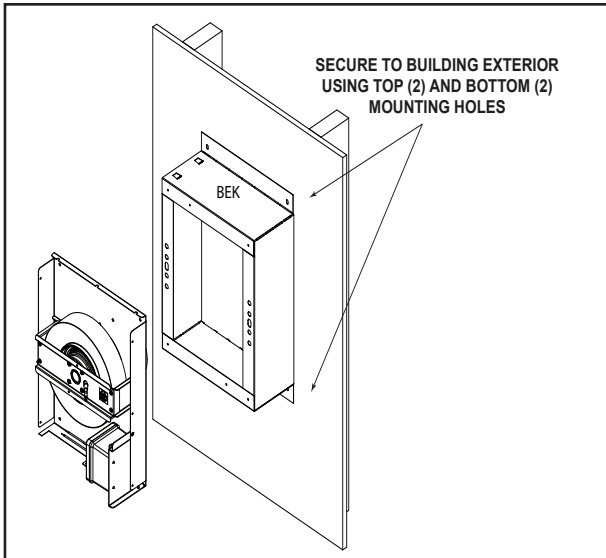
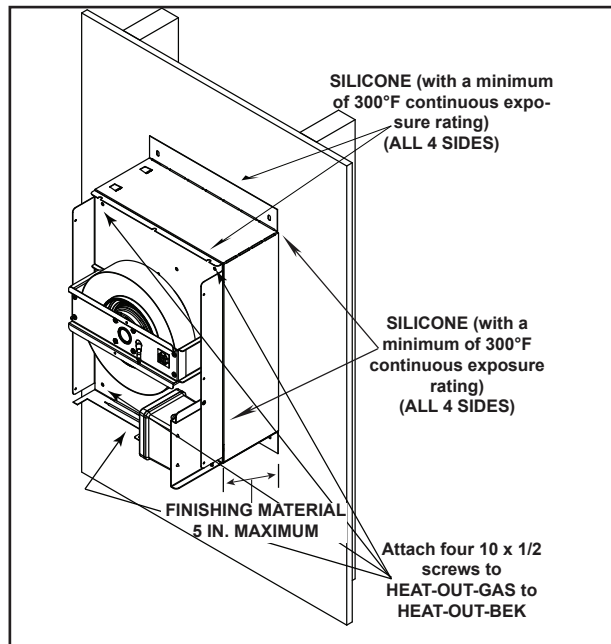
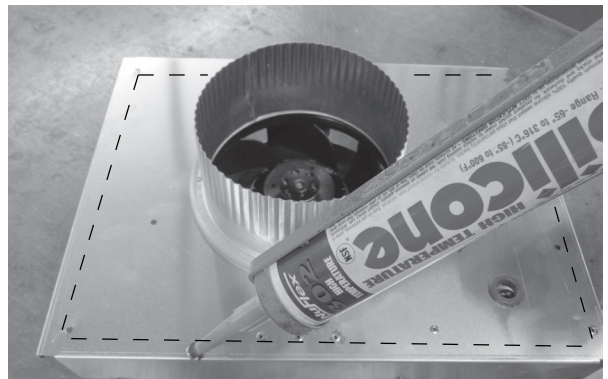

Figure 2.12 HEAT-OUT-GAS Attached to HEAT-OUT-BEK
Figure 2.13 Silicone Weather Sealing
Figure 2.14
13. Apply a bead of silicone (with a minimum of 300° F continuous exposure rating) around the entire metal flange of the HEAT-OUT-GAS. See Figure 2.14. Align with HEAT-OUT-BEK as shown in Figure 2.12. Ensure cap is level and square, then secure HEAT-OUT-GAS to HEAT-OUT-BEK as shown in Figure 2.13.
14. After the HEAT-OUT-GAS has been secured to the HEAT-OUT-BEK, silicone (with a minimum of 300° F continuous exposure rating) should be applied around outer edge of HEAT-OUT-BEK where it meets the building exterior. Silicone (with a minimum of 300° F continuous exposure rating) should also be applied where HEAT-OUT-GAS and HEAT-OUT-BEK meet, as shown in Figure 2.13. If installing with HEAT-OUT-BEK skip to step 17.
15. Place a bead of silicone (with a minimum of 300° F continuous exposure rating) on the back side of the mounting flange for the heat-out. See Figure 2.14.